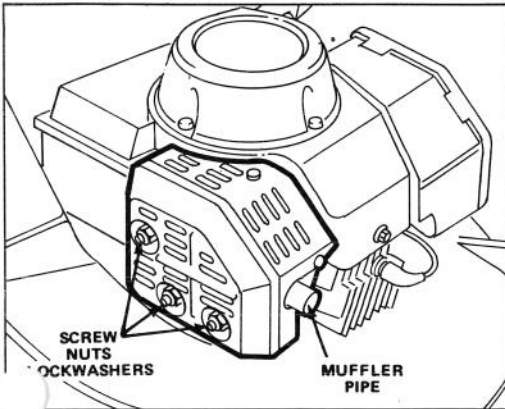

Figure 5
1. Use hard wood scraper and remove carbon from end of muffler pipe (Fig. 5).
2. Remove screw and two nuts and lockwashers (Fig. 5). Slide muffler off mounting pins.
5. Install muffler with screw, two nuts and lockwashers (Fig. 5). After cleaning exhaust port make sure muffler gasket is still useable.